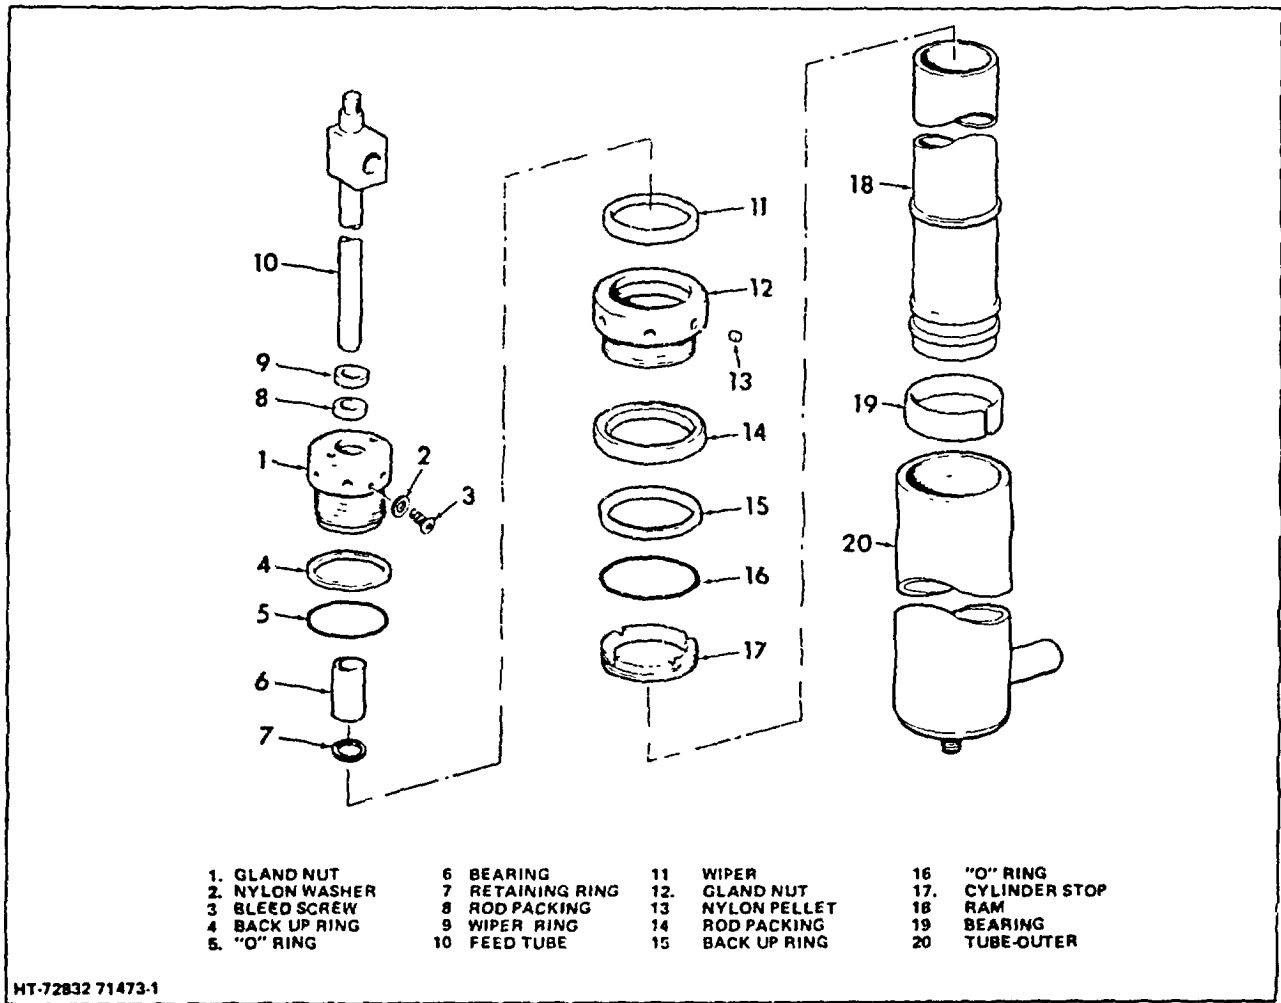

Figure 11. Secondary Cylinder - Exploded View
1. Refer to Figure 11 and preassemble feed